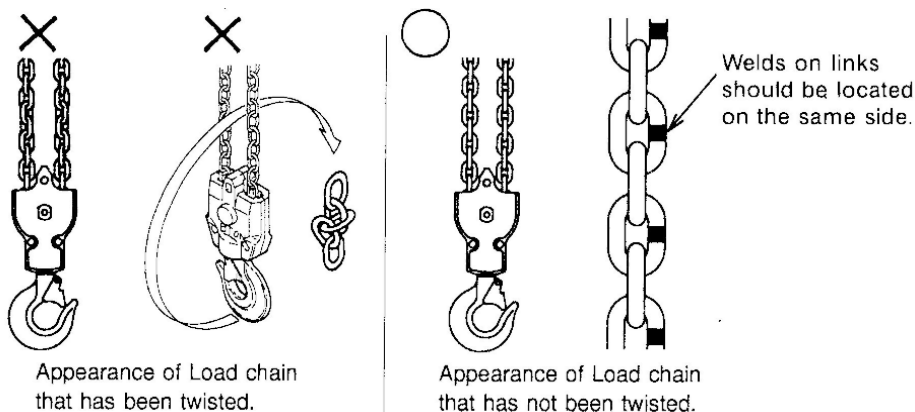

Fig. 4
- In the case of multiple Load chain falls to a common bottom hook assembly, ensure that the under hook assembly has not capsized through the Load chain falls as this will cause the Load chain to become twisted. (See Fig. 4). Before operation, check for and correct any twisting of the Load chain.